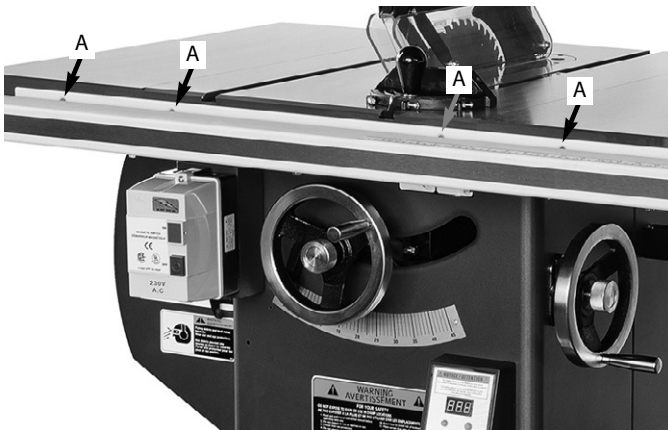

Figure 30
5. If they are not the same, loosen four hex socket cap screws (A, Fig. 30) that hold the table to the base. Two are shown in Figure 30.